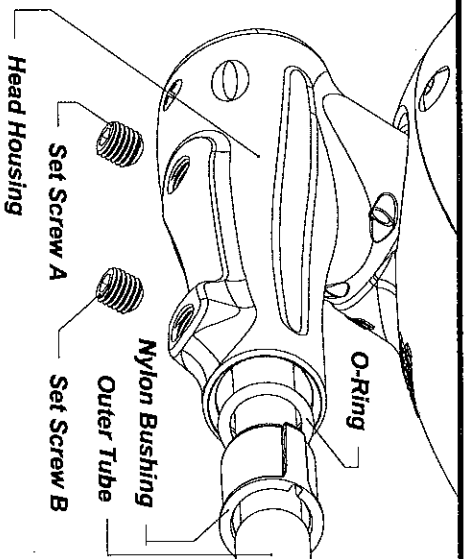
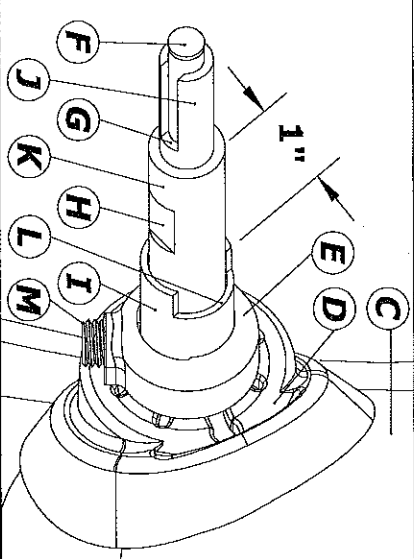
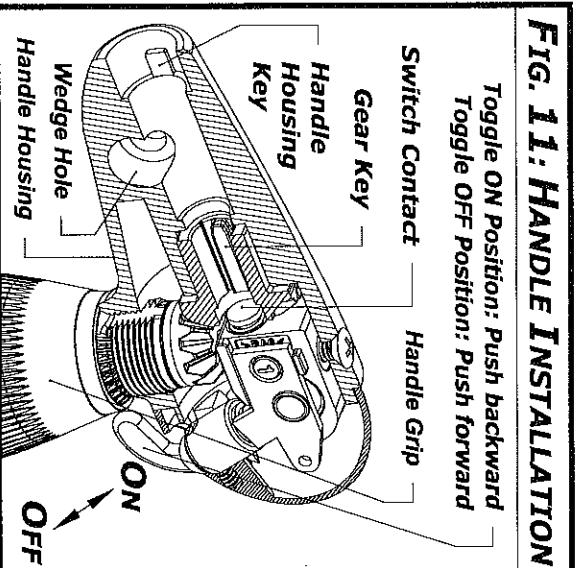

FIG. 9: EXPLODED VIEW OF HEAD HOUSING ASSEMBLY
FIG. 10: CHECK THE 1" DIMENSION AND INSTALL INNER TRIM
FIG. 11: HANDLE INSTALLATION
- Turn the toggle to the OFF position by pushing it down as shown in (Fig. 7), or forward as shown in (Fig. 11).
- Install the spotlight head and shaft assembly by passing the shaft through the bracket and then the shaft hole drilled in the "A" pillar (Fig. 8). This should be performed gently so that the electrical contact (F) at the end of the rod (J) (Fig. 10) will not be damaged.
- Tighten **Set Screw B** (Fig. 9) to create just enough friction to hold the spotlight head in the upper position as shown in Fig. 8.
- Check the distance (Fig. 10) between the end of intermediate tube (K) and the end of outer tube (J) and it should be at least 1". If it is less than 1", it means that the outer tube is not fully seated inside the head housing. The flat on the wedge (Fig. 8) cannot engage with the flat (H) milled on the intermediate tube (K) when installing the handle assembly in Step 11b. To correct the problem, loosen **Set Screw B** (Fig. 9) slightly, and push the head housing (Fig. 9) toward the vehicle inside until it is stopped by the outer tube, and then repeat Step 9c.
- Slide the inner trim (**D**) (**Fig. 10**) onto the spotlight shaft and orientate it to fit its bottom onto the garnish trim (**C**) properly.
- Slide the collar (**E**) (**Fig. 10**) onto the spotlight shaft, push it tightly against the inner trim, and tighten the set screw (**M**).
- Gently slide the handle assembly onto the spotlight shaft, at the same time, turn the handle grip (**Fig. 11**) to engage the gear key (**Fig. 11**) with the rod slot (**G**) (**Fig. 10**), and rotate the whole handle assembly to engage the handle housing key (**Fig. 11**) with the outer tube notch (**L**) (**Fig. 10**) and to bring and hold the handle grip to the position where the grip axis is approximately perpendicular to the flat (**H**) milled on the intermediate tube (**K**) (**Fig. 10**).
- Apply pressure to the handle assembly to engage the switch contact (**Fig. 11**) with the rod contact (**F**) (**Fig. 10**) and to fully seat the handle assembly onto the shaft. Insert the wedge (**Fig. 8**) into the wedge hole in the handle housing (**Fig. 11**) and wiggle the handle assembly to engage the flat on the wedge with the flat on the intermediate tube. Insert and tighten the wedge screw (**Fig. 8**) to 40±5 in-lbs of torque.
- Make proper adjustments to **Set Screw B** (**Fig. 9**) which controls the tension for up-down swing (**Fig. 8**) of the spotlight head, and to **Set Screw A** which controls the tension for 360° rotation (**Fig. 8**) of the spotlight head, so that they create just enough tension to hold the position of the spotlight head in wind. Over-tightening may cause difficulties to aim the spotlight as well as premature wear-and-tear of the spotlight components.